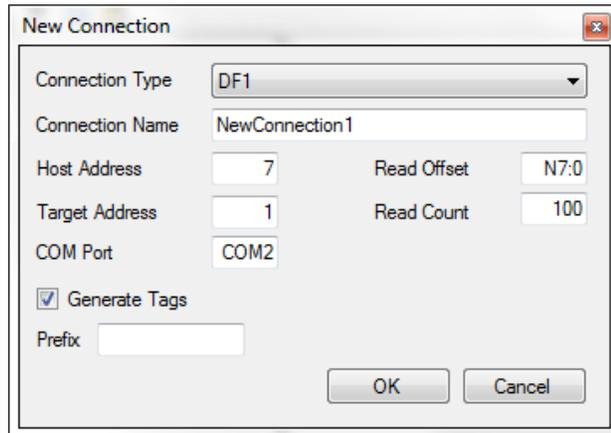

Figure 12 – New Connection window (DF1)
Connection properties are first defined in the New Connection window (Figure 12). The parameters that must be set are as follows:
*(Example: Figure 12)*